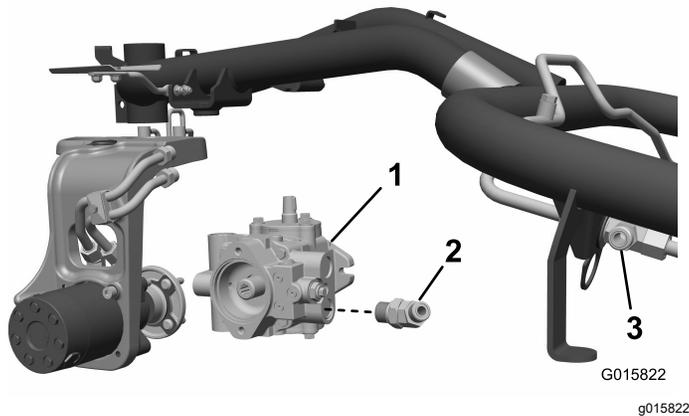

Figure 7
1. Disconnect the lower hydraulic pump hose from the pump and from the upper bulkhead tee fitting to the front motors. Discard this hose (Figure 7).
Leave the fitting loose, oriented up, and facing out (Figure 7).